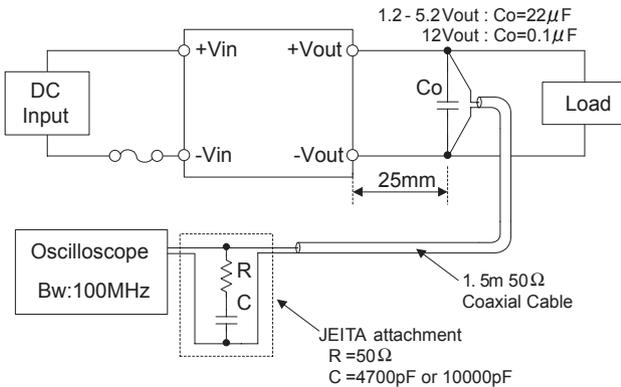

Fig.2.5 Measuring method of ripple and ripple noise
■ Ripple and ripple noise are measured, as shown in the Fig.2.5, by connecting C_o and JEITA attachment.